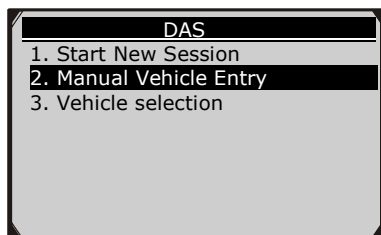

Figure 6.9
- 2) Use the **UP/DOWN** scroll button to select the **Manual Vehicle Entry** option from the DAS menu. (Figure 6.9)